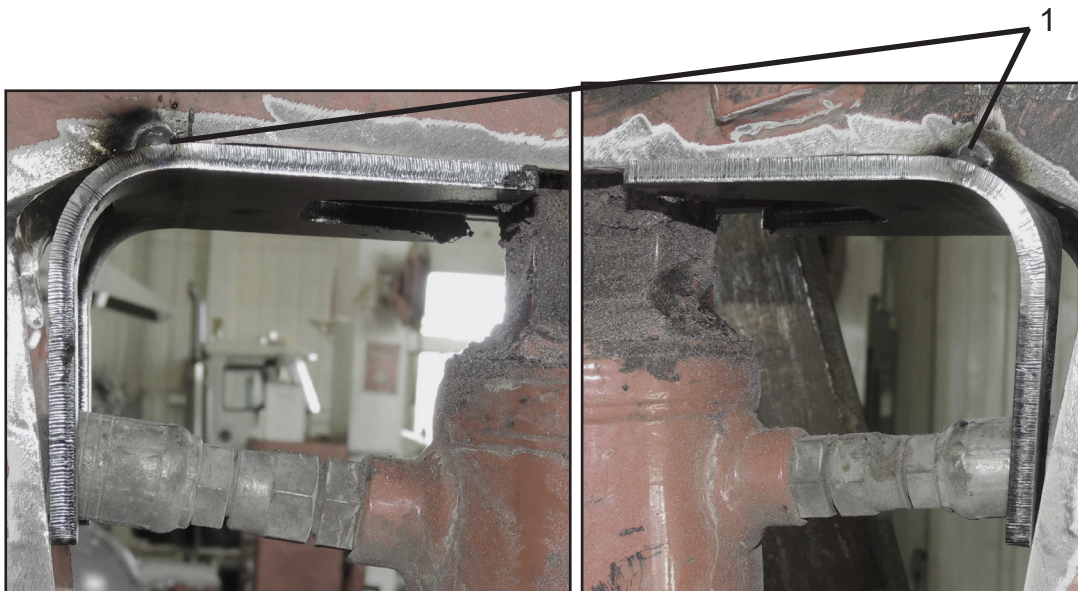

Figure 6
8. Tack weld the “H” plate on both upper edges to the facing edge of the arm fork lug cavity (Figure 6, Item 1). Apply approximately 1/4” welds.